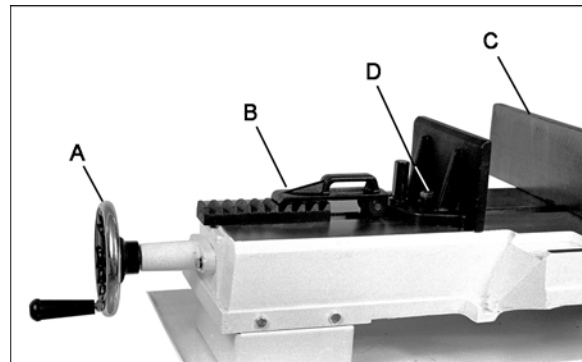

Figure 11
1. Turn vise handwheel (A, Figure 11) 1/2 turn counterclockwise.
2. Move rack block (B, Figure 11) to desired location by sliding along the bed. Place the rack block onto the rack.
1. Loosen bolts and move vise jaw (C, Figure 11) to desired location.
3. Adjust the movable vise parallel to the fixed vise by loosening bolt (D, Figure 11), adjusting to parallel, and re-tightening bolt.